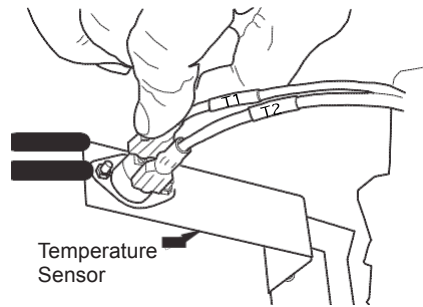

Figure 23 - Temperature Sensor Wires
6. Connect two black and yellow wires (female ports) marked T1 and T2 with the two male ports on the temperature sensor (see Figure 23).